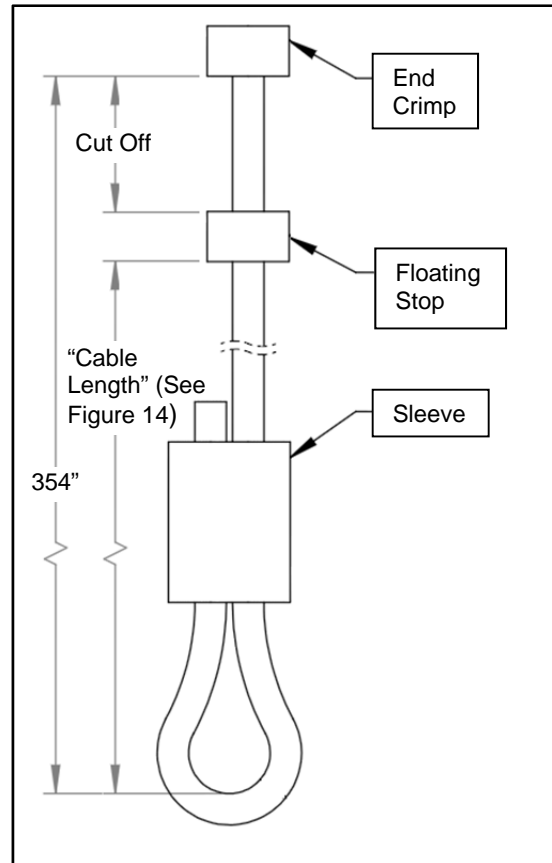

Figure 51
- Crimp the floating stop on the Counterbalance-Lift cable assembly to the specified "Cable Length" dimension listed in the Object List. Do this for all cable assemblies. (See Figure 14 & Figure 51)
- Cut off the excess cable after the Floating Stop if necessary. (See Figure 51)